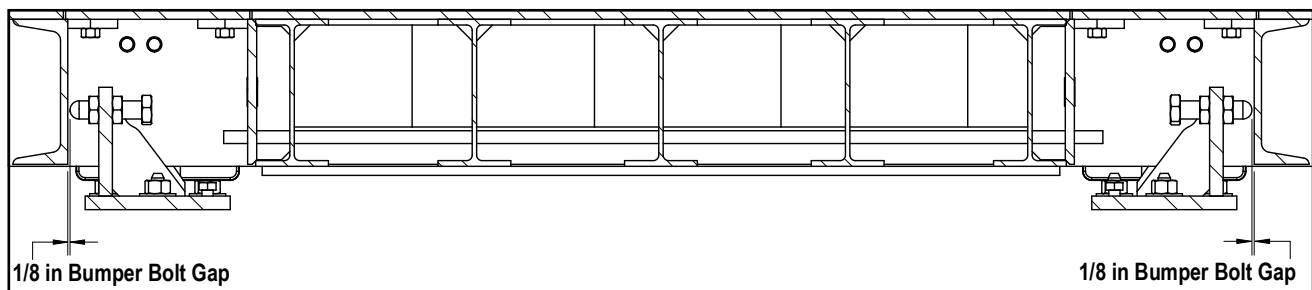

Figure 3-8. 1/8 in Bumper Bolt Gap
4. Adjust to leave a 1/8 in gap between the bumper bolt and the load cell enclosure (see Figure 3-8).